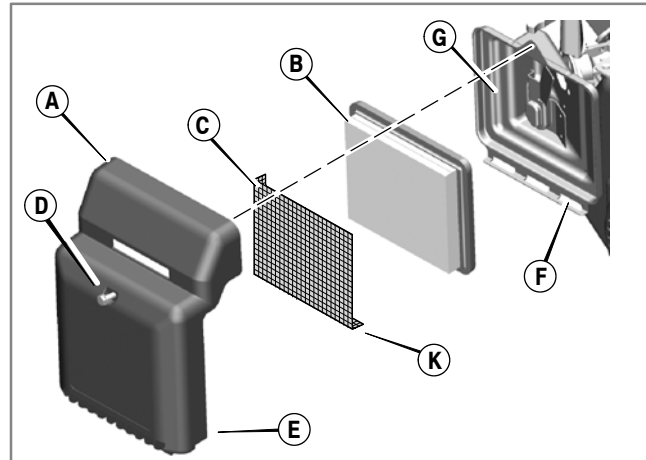
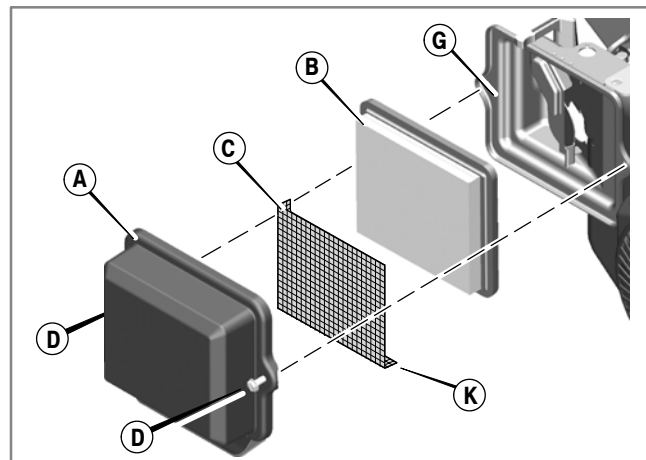
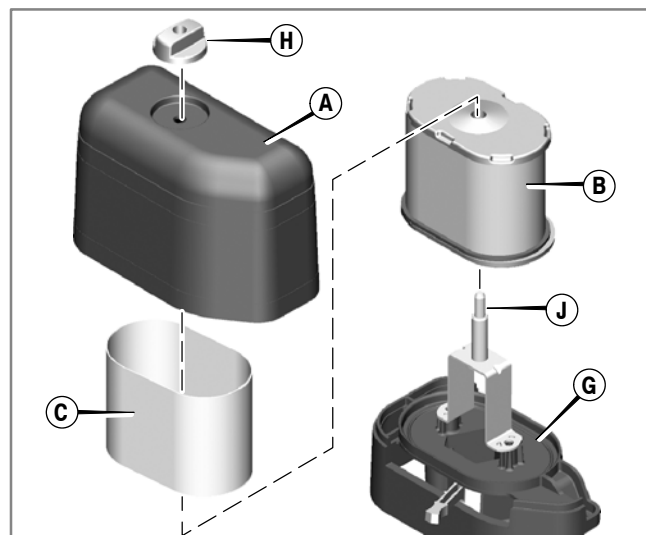

Figure 20: Flat Air Filter
Figure 21: Flat Air Filter
Figure 22: Oval Air Filter
Pre-cleaner (Figure 20, Figure 21, Figure 22)
Flat Air Filter (Figure 20 and Figure 21)
1. Loosen screw(s) (D) that holds the air filter cover (A).
2. Open the cover and remove the cartridge (B).
3. Remove the pre-cleaner (C), if equipped, from the cartridge. Discard the old cartridge.
4. Install the new cartridge. If equipped with a pre-cleaner, install lip (K) on the pre-cleaner at the bottom of the cartridge pleats.
5. On models equipped with air filter shown in Figure 20, insert the cover tabs (E) into the slots (F) located at the bottom of the base (G).
Oval Air Filter (Figure 22)